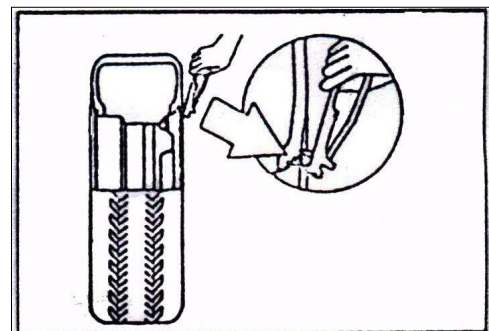

Fig. 17
- Remove the weight on the rim. (Fig. 17)